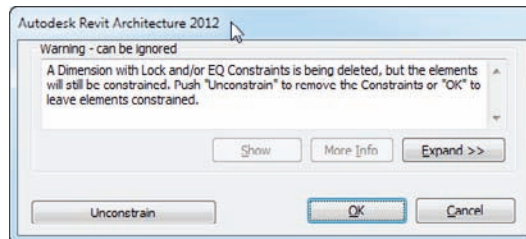

FIGURE 5.33 A Revit warning pertaining to the constraint of the walls
3. Revit gives you a warning, as shown in Figure 5.33. You must then choose whether to unconstrain the elements.